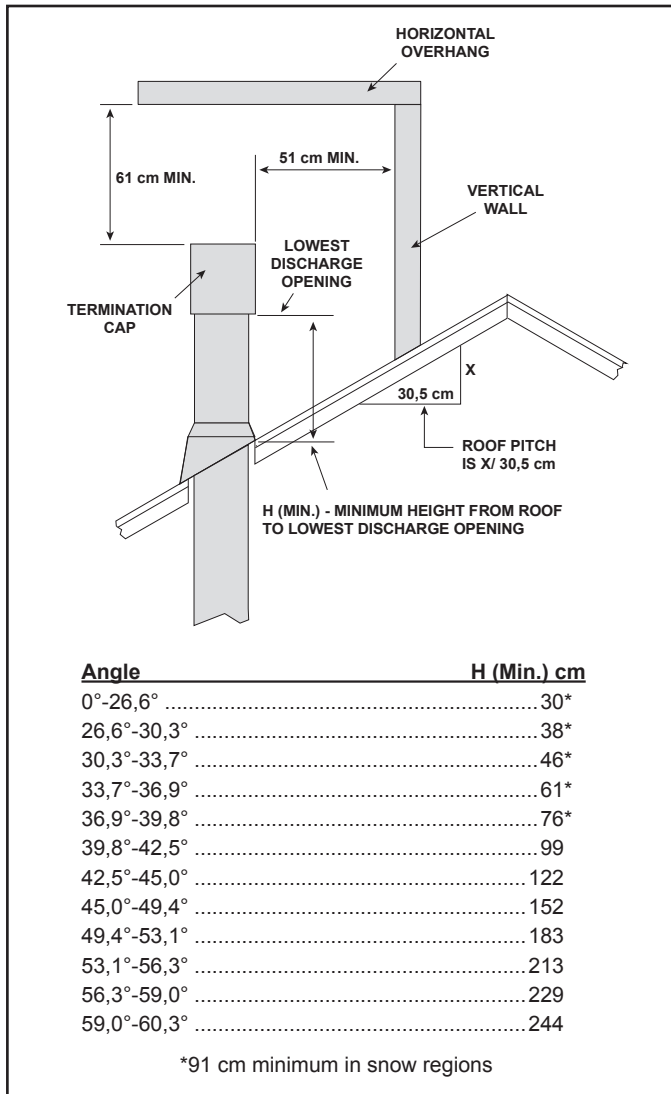

Figure 10.14 Minimum Height From Roof To Lowest Discharge Opening
- See minimum vent heights for various pitched roofs (Figure 10.14) to determine the length of pipe to extend through the roof.